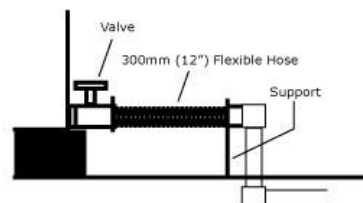

FIGURE 6
- Take the pipe directly into ground to avoid running over the pipe and breaking any fittings (see figure 6).